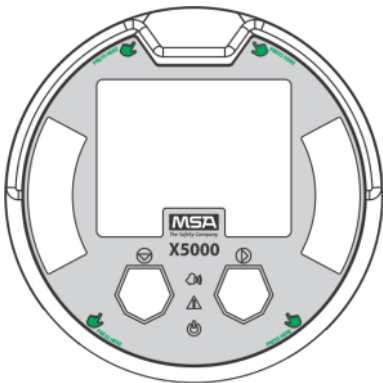

Figure 13 Highlighted areas show where to press when replacing a board stack.
8. Replace the board stack legs into the four depressions in the housing. Push firmly on the board stack where indicated (see Figure 13).